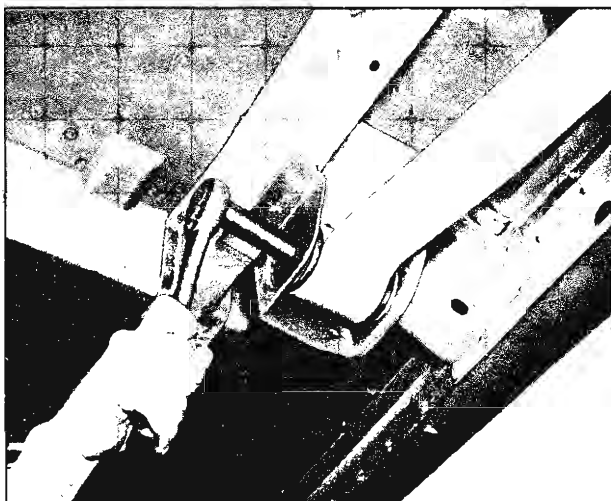

Fig. 11—Removing Front Eye Bushings
3. Loosen and drive out front spring eye bolt. Lower spring and remove front rubber eye bushing (fig. 11).